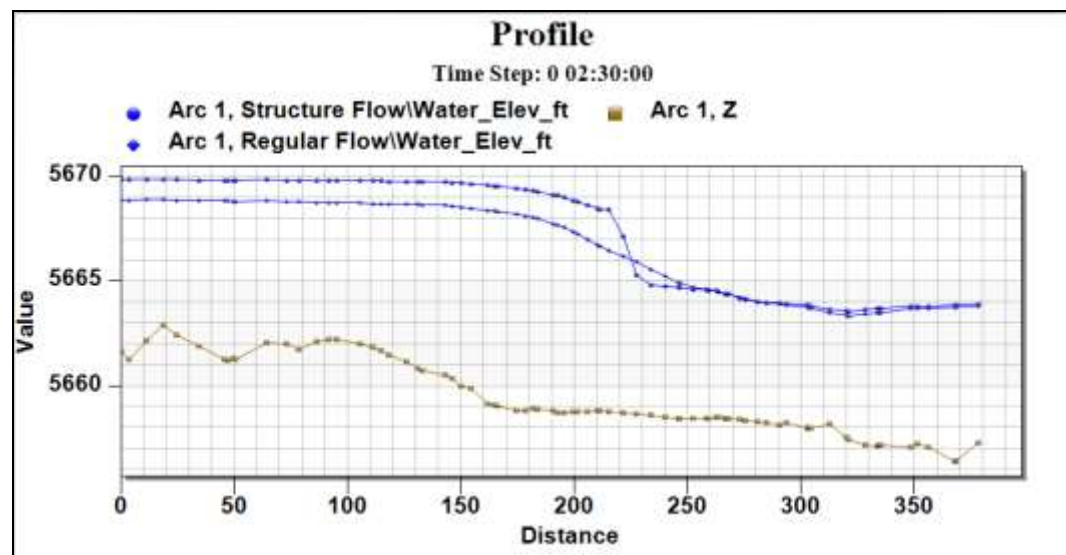

Figure 6 Water Surface Elevation Profile Plot
8. Select **Finish** to close the *Plot Wizard* dialog to generate the profile plot (Figure 6).